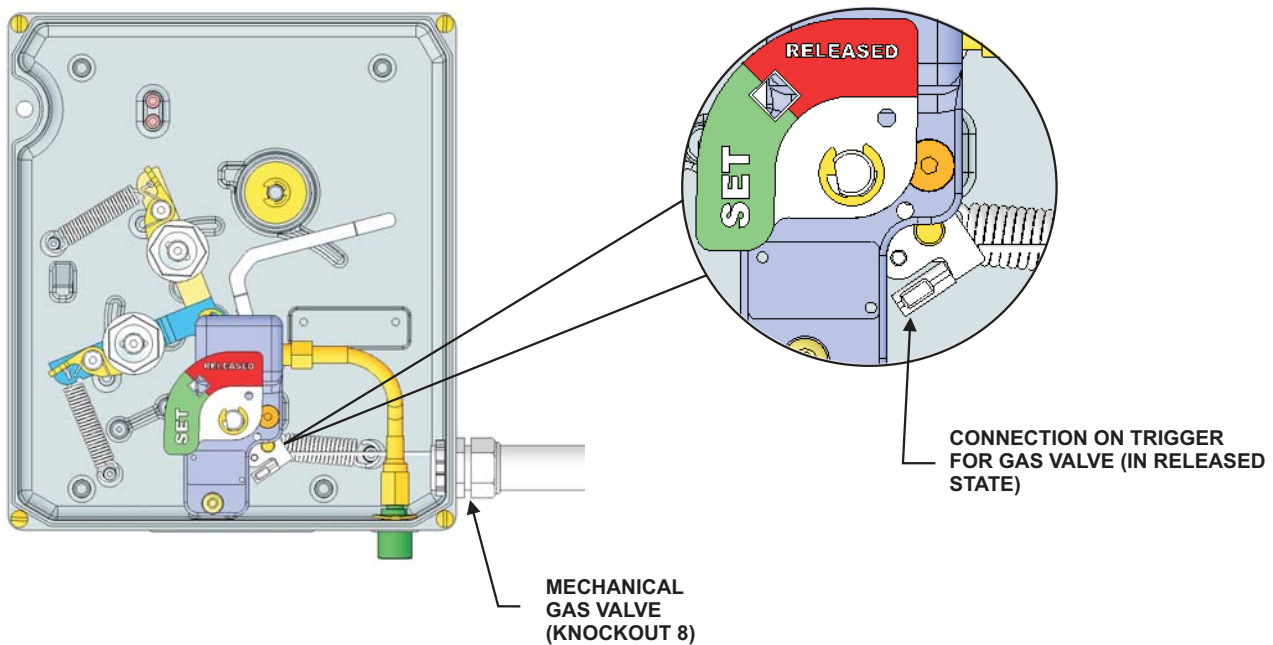

Figure 4-62. Cabling Gas Valve (Cam/Flag 'in Released' State)
4. Pull the cable back through so the crimp rests at the trigger (see Figure 4-62).